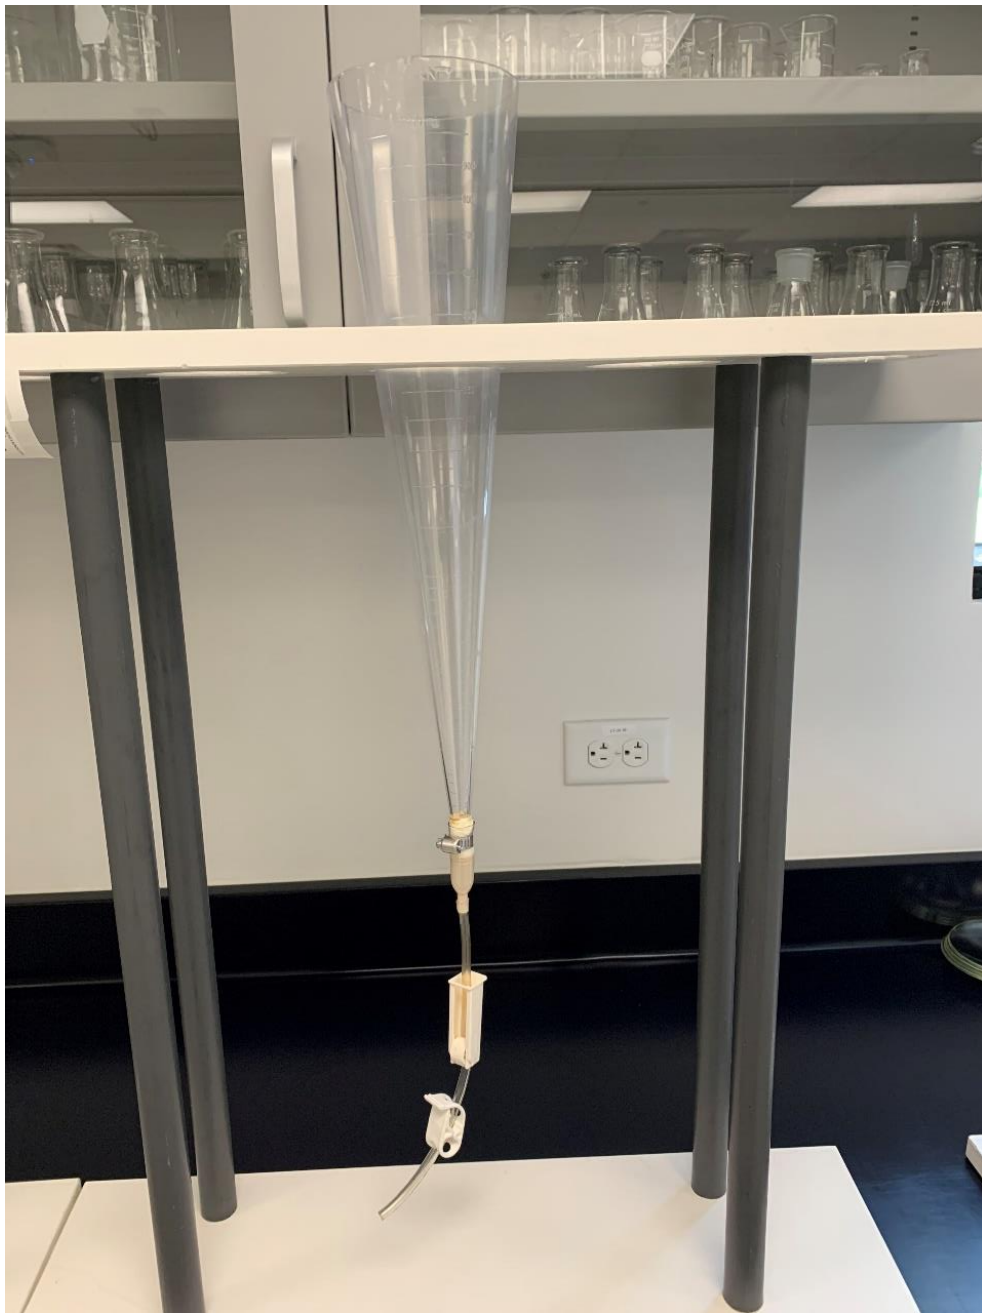

Figure 4: Fully assembled cone on stand
- 11) Place the fully assembled cone in the stand (Figure 4).